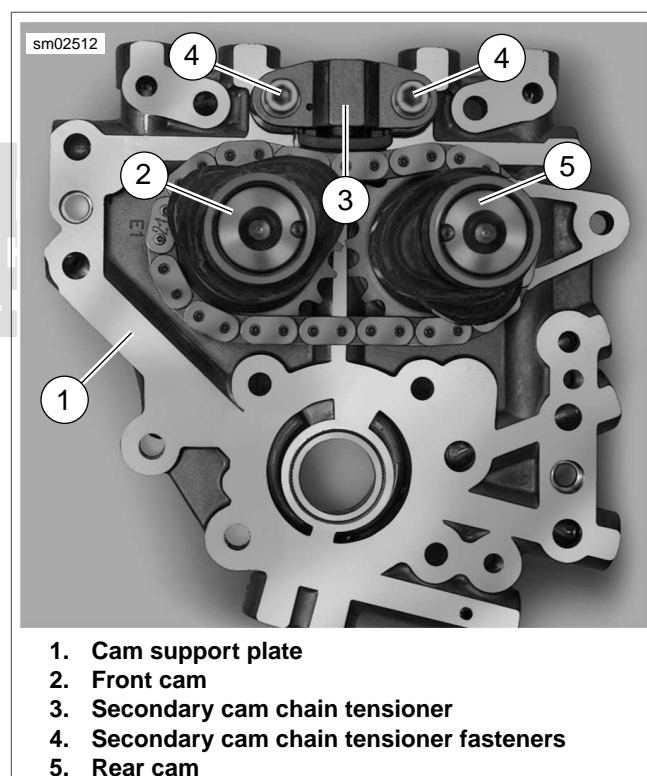

Figure 3-108. Camshafts
- See Figure 3-108. Remove screws (4) and remove secondary cam chain tensioner (3).